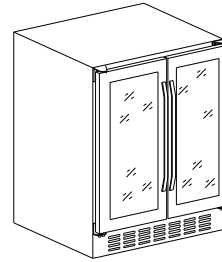

Fig:6
4. Fig 6: Door reverse is finished;